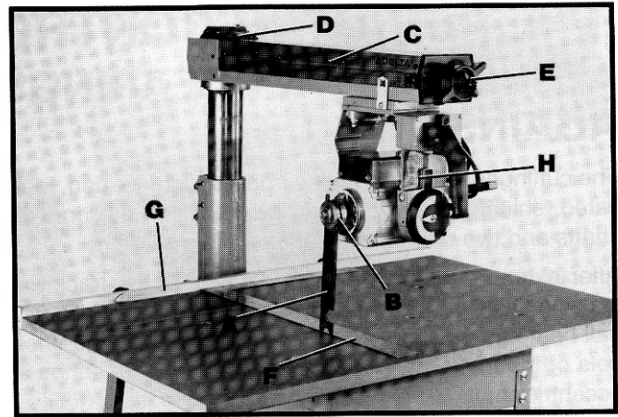

Fig. 43
2. Assemble one of the wrenches (A) Fig. 43 supplied, vertically to the arbor shaft by clamping it between two flanges (B) on the arbor shaft. **NOTE:** Arbor nut has a left hand thread.
3. Rotate track arm (C) Fig. 43, to the cross-cut position as shown, with the pointer on zero on the miter scale (D). Tighten track arm clamp (E).
4. Lower track arm (C) Fig. 43, until wrench (A) just clears the table surface. Place a framing square (F) Fig. 43, on the table with one end of the square against the fence (G) and the other end against wrench (A) as shown.
5. Loosen cuttinghead clamp knob and slide cuttinghead (H) Fig. 43, the entire length of the track and check to see if the wrench (A) travels parallel to the square (F).